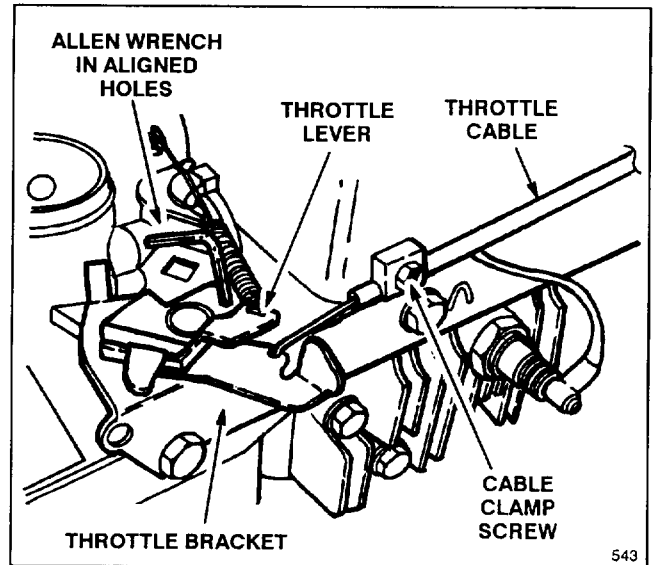

Figure 19
3. Loosen cable clamp screw until throttle cable slides (Fig. 19).
4. Move throttle lever right or left until hole in throttle lever lines up with hole in throttle bracket (Fig. 19). Use an allen wrench, small drill or pin to hold alignment.